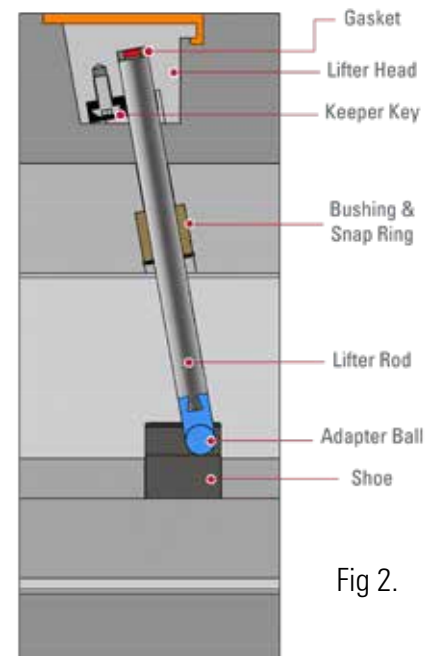

Fig 2.
Cut a section view through the center of the lifter rod (FIG. 2) and check the dimensions to make of sure the following:
6. Subtract the dovetail shape onto the positive stop lifter bar (*FIG. 2*)